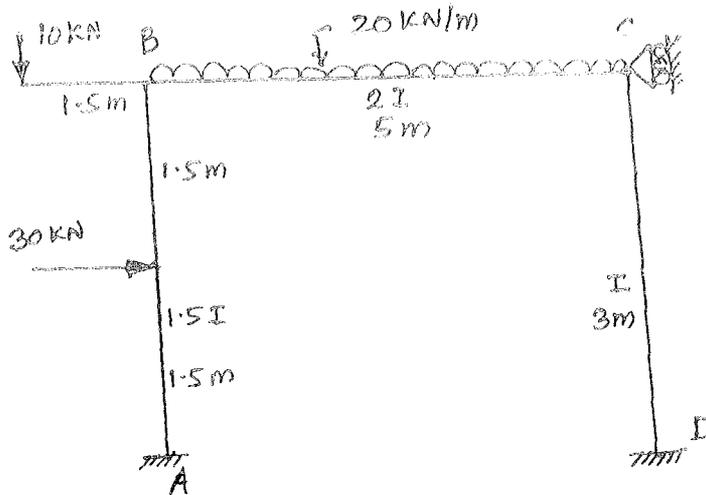

Fig. 5
- (b) Find the moment and rotations at the critical sections of the frame shown in Fig. 5. Use slope deflection method.